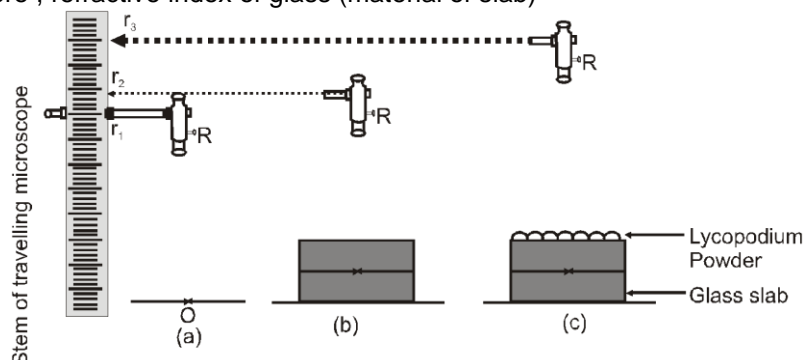

Fig. 17 Travelling microscope taking reading (a) at the cross mark (b) at the cross mark with slab placed on it (c) at powder sprinkled on the top of the slab
For accurate measurements of depths, a travelling microscope [Fig. 17(a)] is used.
5. Move the microscope very gently. Using the screw, focus the eye piece on cross mark and bring the cross in focus such that the cross wires, coincides with the marked cross on the paper. Note the reading of the microscope as r_1 [Fig. 17(a)]
7. Move the microscope gradually and gently upward to bring the cross mark in focus and on cross of cross wires. Record the reading as r_2 [Fig. 17(b)]
8. Sprinkle some fine lycopodium powder on the glass slab and move the microscope upward till the powder particle come into focus. Record the reading on the scale as r_3 [Fig 17(c)]